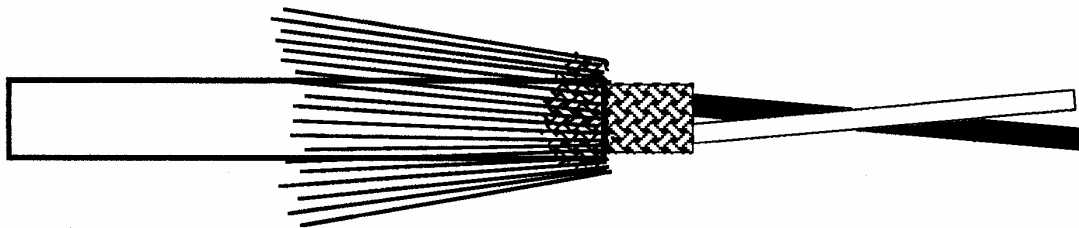

Figure 5-7. Outer Braid Preparation: Twinaxial Cable with Inner Braid
- See Figure 5-7 for cable with inner braid.